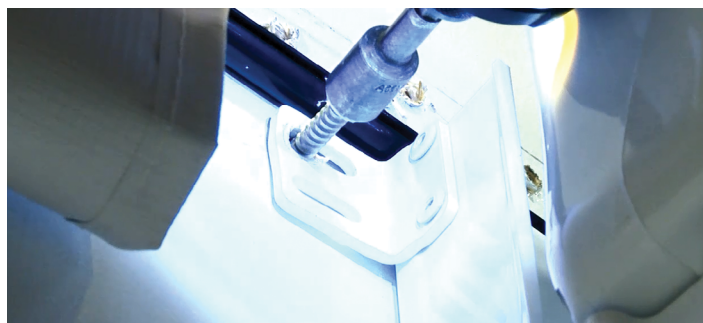

Fig.28
A. If using the original angle bracket on the new support arm assembly, place the drive support arm assembly directly under the awning rail so the top of the mount arm is touching the bottom of the rail. Secure the upper section of the drive mount arm to the unit with the provided #14 x 1 1/4" screws, aligned directly below the holes of the awning removed (**Fig.28**).